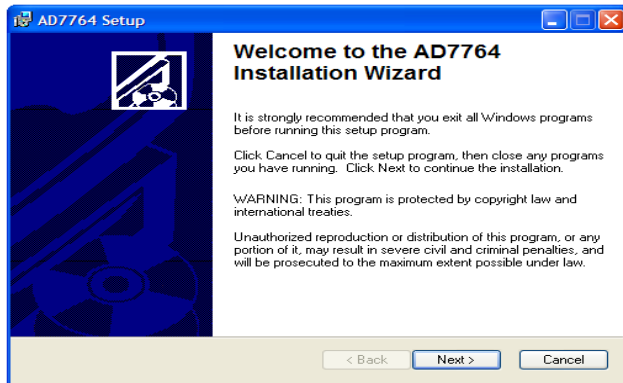

Figure 2. AD7764 Setup Dialog Box, Initial Software Install Screen
2. The dialog box shown in Figure 2 appears. Click **Next**.